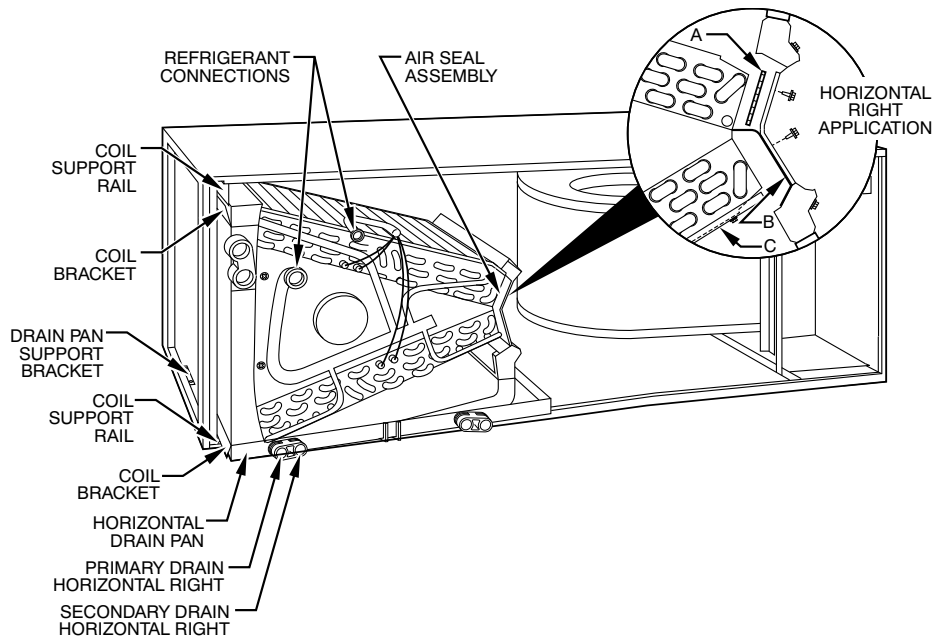

Fig. 7 – Conversion for Horizontal Right Applications - A-Coil
4. Remove blower and coil access panels and fitting panel (Fig. 7).
1. Remove blower and coil access panels (Fig. 7).
- a. Remove air seal assembly from coil by removing 4 screws (Fig. 7).
- b. Remove air splitter (B) from coil seal assembly by removing 3 screws (Fig. 7 inset).
- c. Remove filler plate (A) and install air splitter (B) in place of filler plate.
- d. Install filler plate (A) as shown in horizontal right application.
- e. Remove condensate troughs (C) and install on opposite tube sheets.